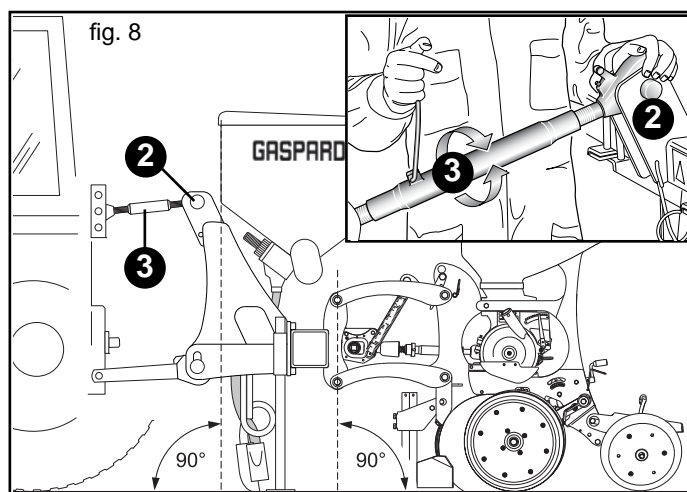

fig. 8
- 2) Connect the third upper point (2, Fig. 8); the pin will be blocked with the appropriate split pin; use the adjusting tierod (3, Fig. 8) to keep the seeder perpendicular to the ground (Fig. 8).